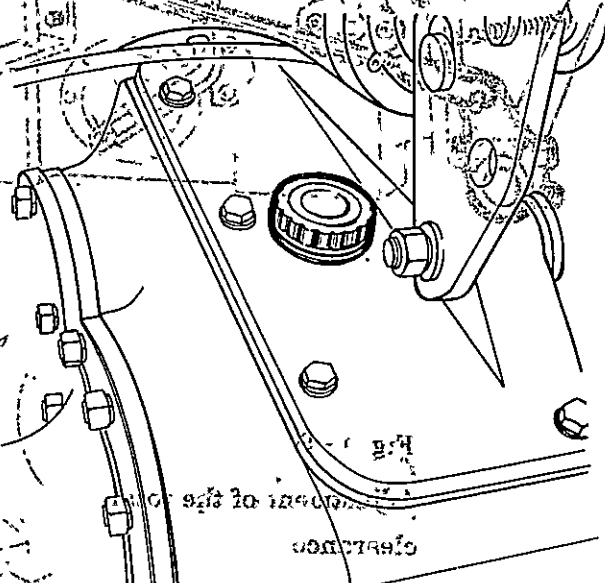

Fig. 4-7. Rear axle oil plug
- 5). Add the lubricating oil according to the seasons and the table of lubrication (Fig. 4-7)